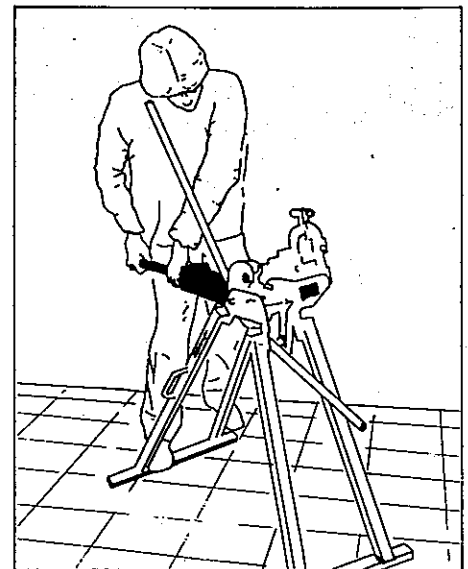

Figure 5
*NOTE: When you use the machine in this way, you should steady it by placing your foot on the front leg cross member (Figure 5).*